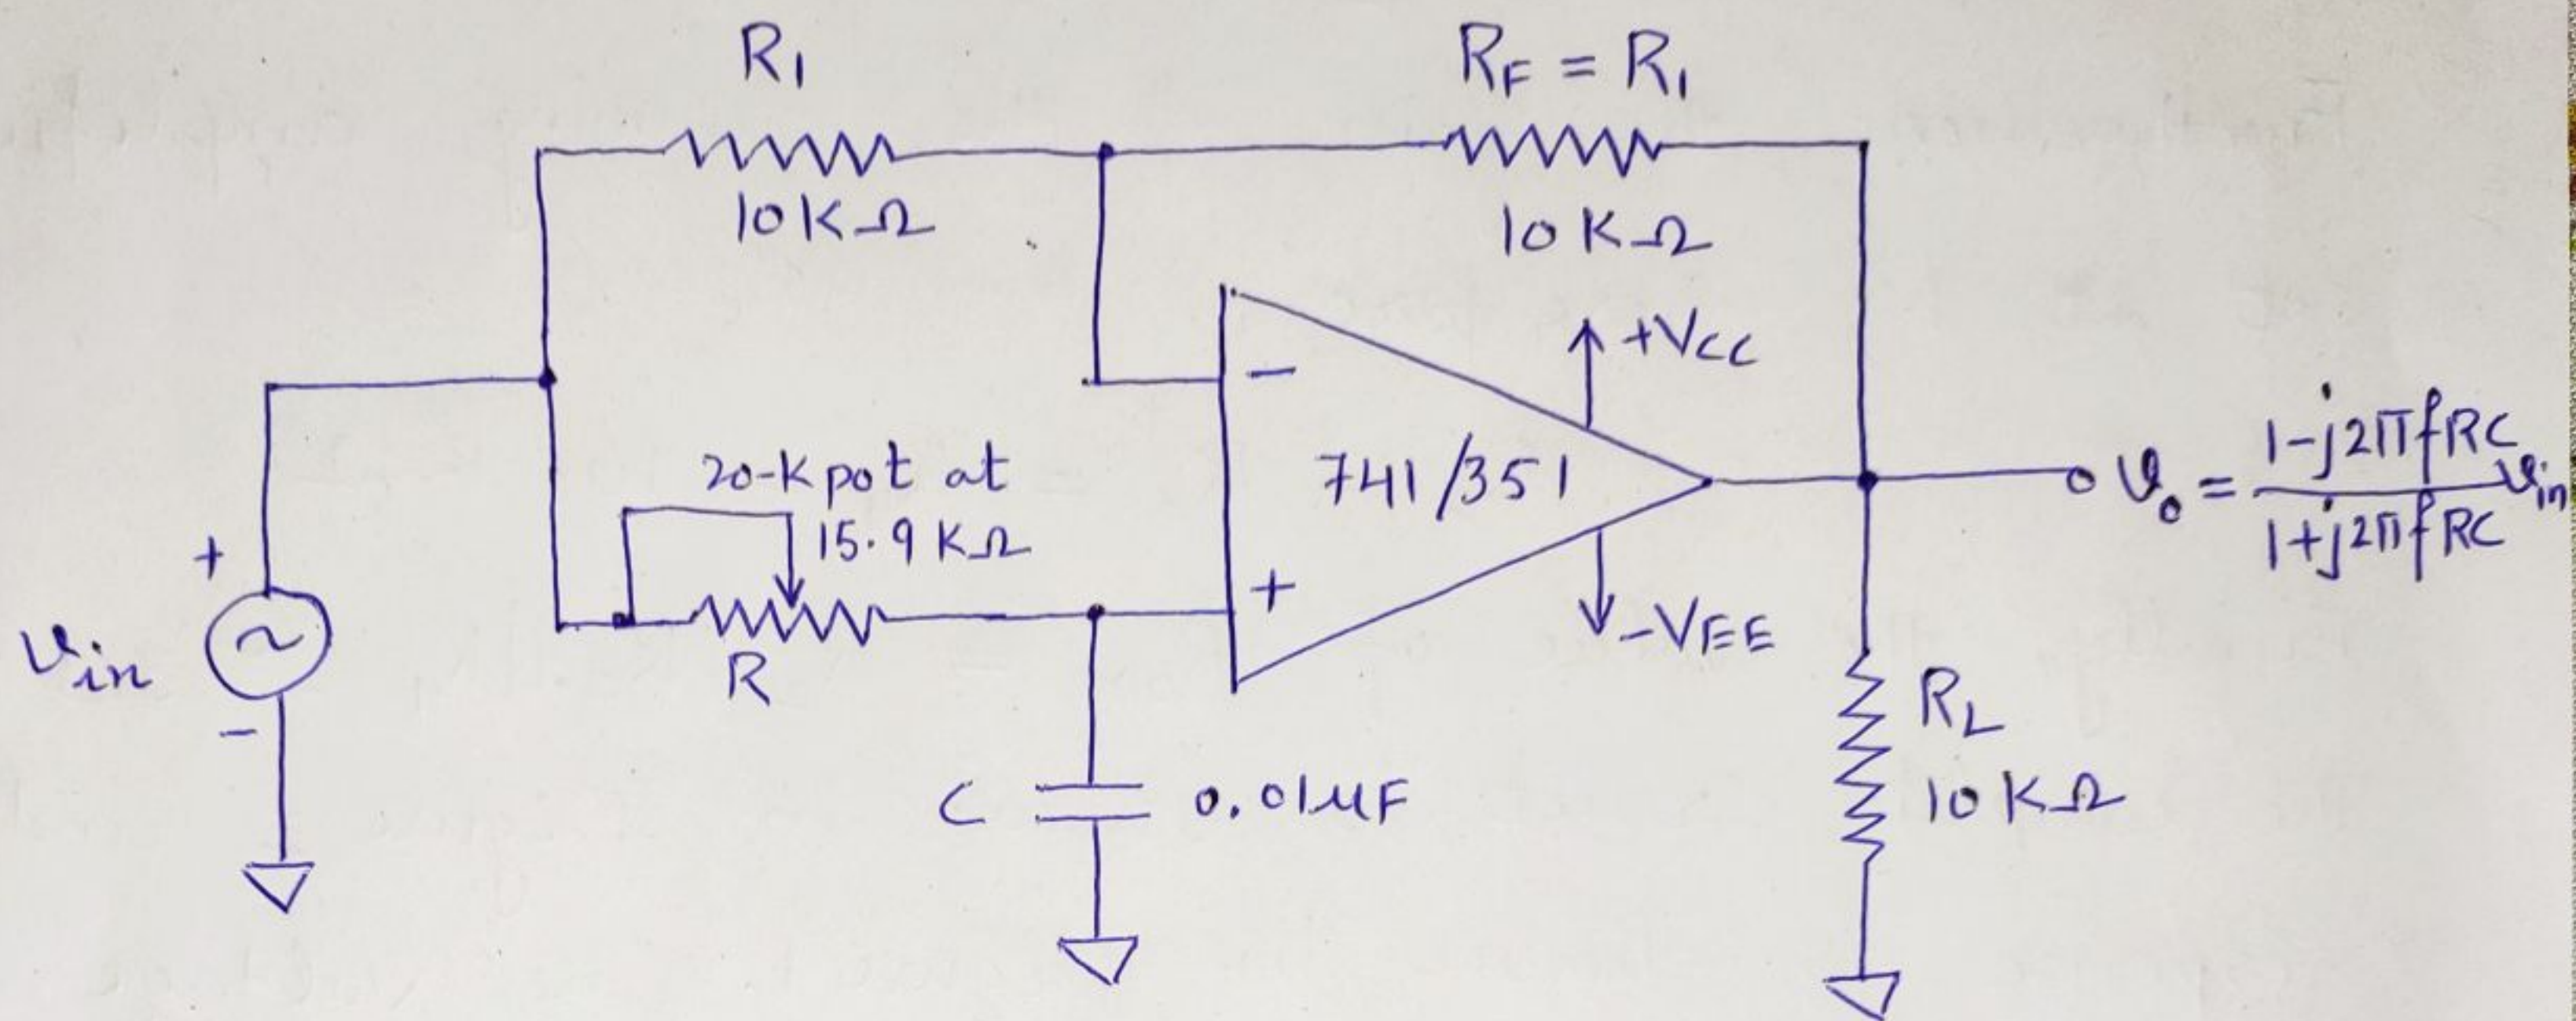

Figure 3. Circuit of All-Pass Filter.
As the name suggests, an all-pass filter passes all frequency components of the input signal without attenuation, while providing predictable phase shifts for different frequencies of the input signal. When signals are transmitted over transmission lines, such as telephone wires, they undergo change in phase. To compensate for these phase changes, all-pass filters are required. The all-pass filters are also called delay equalizers or phase correctors. Figure 3 shows an all-pass filter wherein $R_F = R_1$. The output voltage V_o of the filter can be obtained by using the superposition theorem:
where ϕ is in degrees, f in hertz, R in ohms (5) and C in farads. For fixed values of R and C , the phase angle ϕ changes from 0 to -180° as the frequency f is varied from 0 to ∞ . In Figure 3, if the position of R and C are interchanged, the phase shift between input and output becomes positive. That is, output v_o leads input v_{in} .